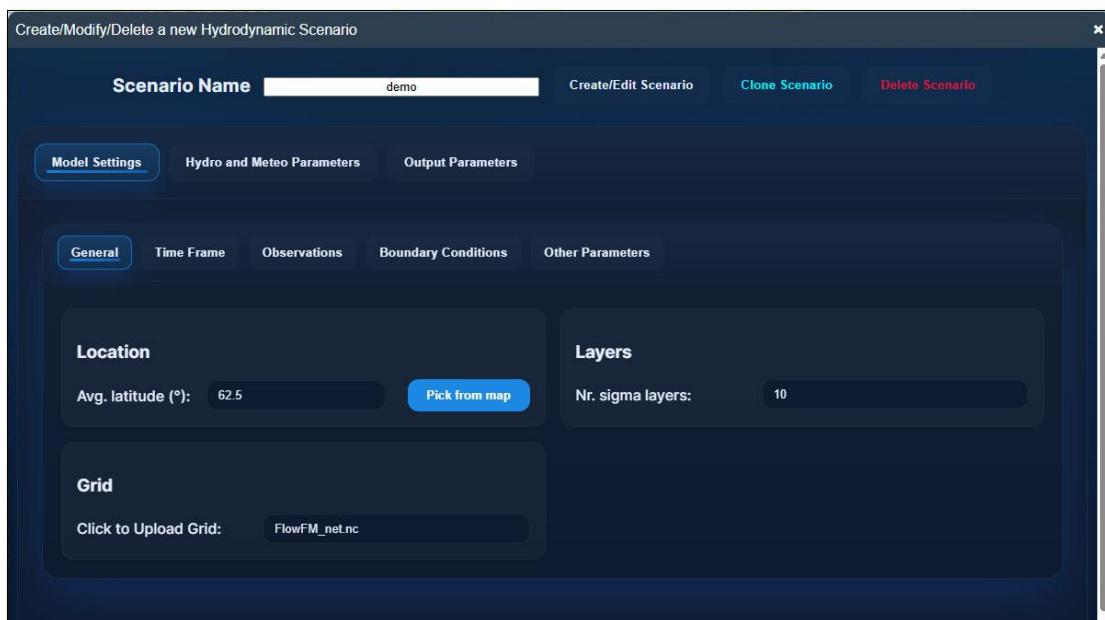

Figure 2.4. Set up general options for the HYD scenario
- ❖ **General:** This sub-tab allows the user to define the approximate location of the modelling area, upload a pre-defined flexible grid, and initiate some sigma layers (**Figure 2.4**). To understand more about the sigma layer, please refer to this manual: https://content.oss.deltares.nl/delft3d/D-Flow_FM_User_Manual.pdf.